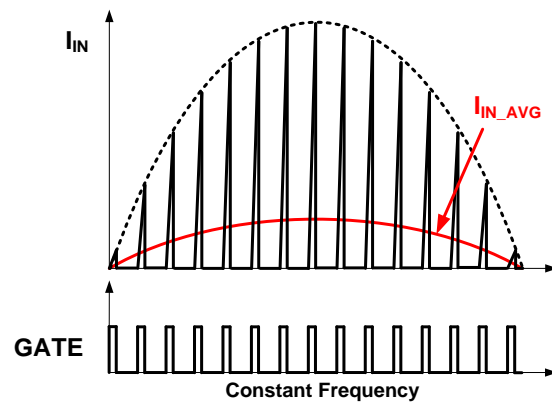

Figure 18. Input Current and Switching
In a conventional boost converter, Boundary Conduction Mode (BCM) is generally used to keep input current in phase with input voltage for Power Factor (PF) and Total Harmonic Distortion (THD). However, in flyback / buck boost topology, constant turn-on time and constant frequency in Discontinuous Conduction Mode (DCM) can implement high PF and low THD, as shown in Figure 18. Constant turn-on time is maintained by an internal error amplifier and a large external capacitor (typically $>1 \mu F$) at the COMI pin. Constant frequency and DCM operation are managed by linear frequency control.